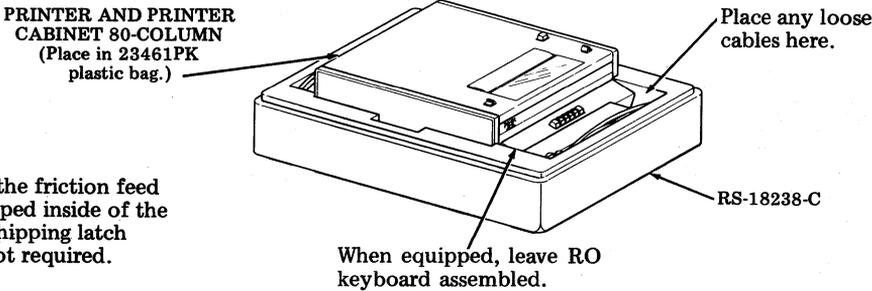

Fig. 11
Step 2. Insert keyboard and any loose cables in space provided in the RS-18238-C detail. See Fig. 11.